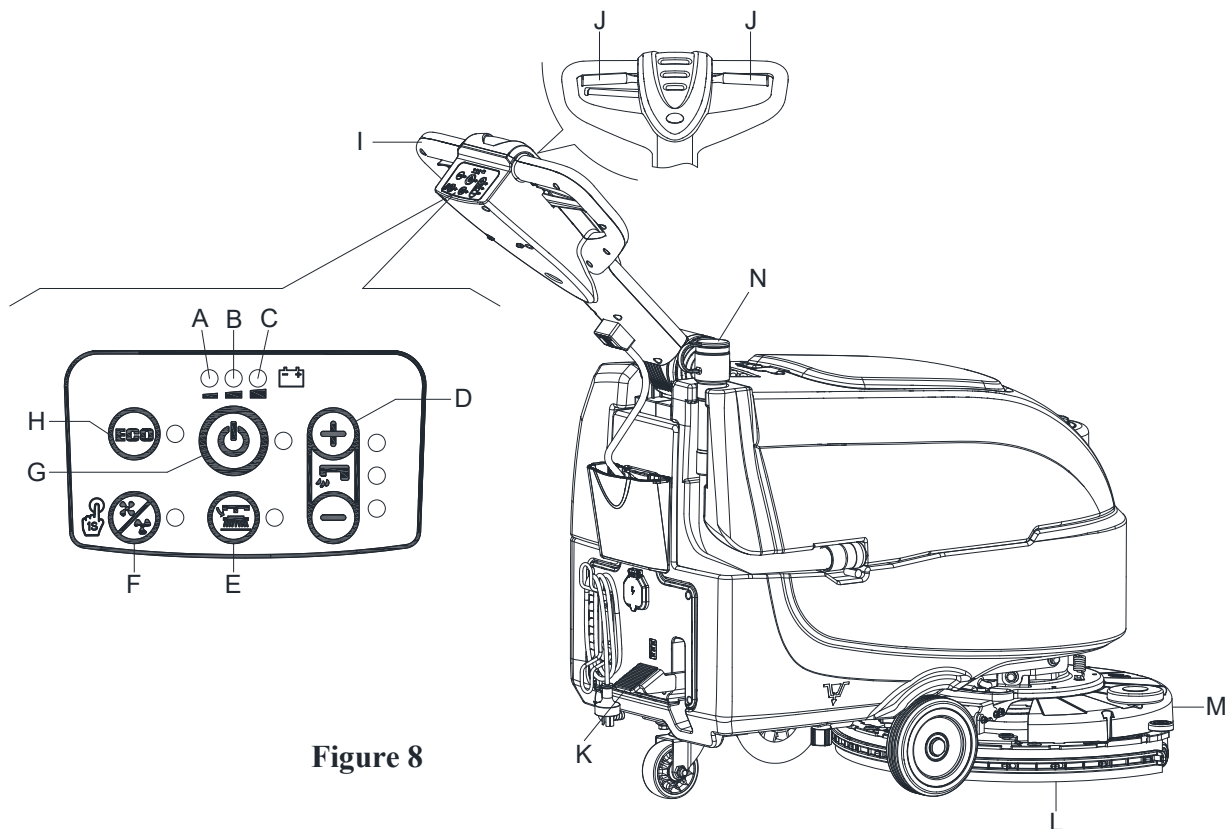
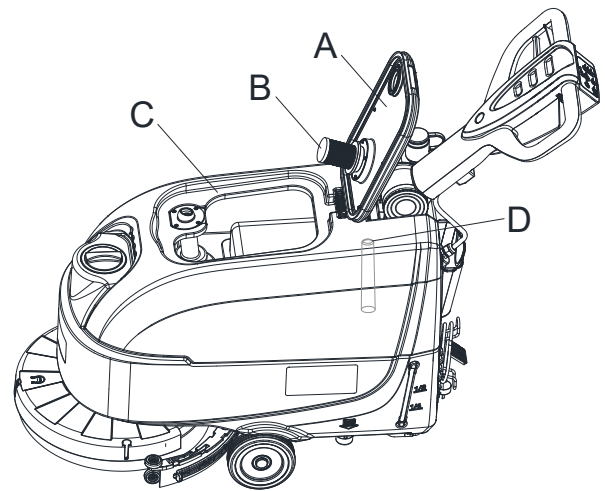

Figure 8
Figure 10
2. Push the machine to the area to be cleaned, by pushing it with the hands on the handlebar (I, Figure 8).
3. Lower the brush/pad-holder deck (M, Figure 8) and the squeegee (L) by lifting the pedal (K).
4. Press the start switch (G, Figure 8). Check that the green warning light (C) turns on (charged battery). If the yellow (B) or red warning light (A) turns on, Shutoff the power switch (G, Figure 8) and charge the batteries (see the procedure in Maintenance chapter).
5. Press the washing water flow control switches (D, Figure 8) as necessary, depending on the type of cleaning to be performed.
6. Start cleaning by pushing the machine with the hands on the handlebar (I) and pressing the safety switch lever (J).
To move the machine forward, press either the left or right safety switch lever (J, Figure 8) or both.
- While keeping both hands on the handlebar press the safety switch lever (J, Figure 8), then manoeuvre the machine and start scrubbing/drying the floor.
While the green warning light (C, Figure 8) stays on, the batteries allow the machine to work normally. When the green warning light (C) turns off, and the yellow warning light (B) turns on, it is advisable to charge the batteries, because the remaining charge will last for a few minutes (depending on battery characteristics and work to be performed). When the red warning light (A) turns on, batteries are fully discharged. After a few seconds, the brush/pad-holder is automatically turned off.
An automatic float shut-off system (B, Figure 10) blocks the vacuum system when the recovery water tank (C) is full. The vacuum system deactivation is signaled by a sudden increase in the vacuum system motor noise frequency, also the floor has not dried.
If the vacuum system turns off accidentally (for example, when the float is activated because of a sudden machine movement), to resume the operation: turn off the vacuum system by pressing the switch (G, Figure 8), then open the cover (A, Figure 10) and check that the float inside the grid (B) has gone down to the water level. Then close the cover (A) and turn on the vacuum system by pressing the switch (G, Figure 8).
When the recovery water tank (C, Figure 10) is full, empty it according to the following procedure.
2. Lift the brush/pad-holder deck (M, Figure 8) and the squeegee (L) by pressing the pedal (K).
4. Empty the recovery water tank with the hose (N, Figure 8). Then, rinse the recovery tank (C, Figure 10) with clean water.
5. Remove the recovery tank lid (A, Figure 10) and clean the inside of the cover and the filter floater grid (B) with clean water.
6. Check the recovery tank (D, Figure 10) whether there is foreign body jam and clean it.